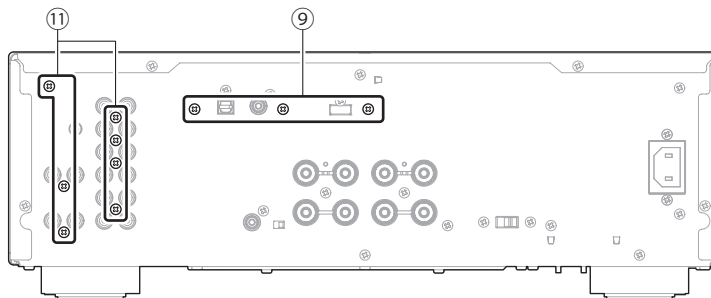

Fig. 3
- Remove 3 screws (⑨). (Fig. 3)
- Remove 7 screws (⑪). (Fig. 3)